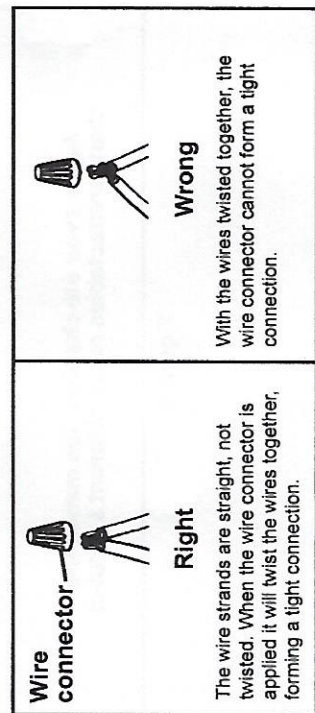

Figure 2
5. Remove 3/8" (.95 cm) of insulation from the two wires from strain relief, and attach the new terminal block using the wire connectors. See Figure 2.